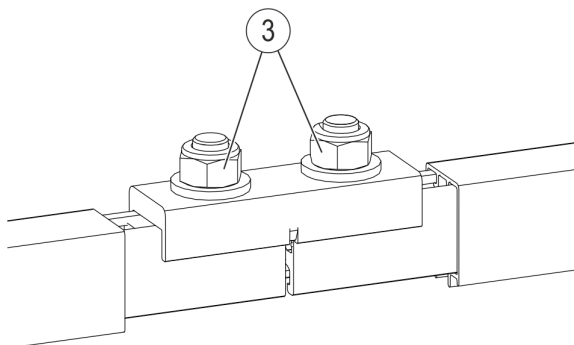

Fig. 78: Tighten nuts M10/M12
- Mount the connector (Pos.1) with notch cable lugs (Pos. 5), as described in Section 6.4.3.4, with the prescribed torque (SW 13, torque wrench **10 Nm** for stainless steel nuts, **12 Nm** for galvanized nuts) (see Fig. 78).